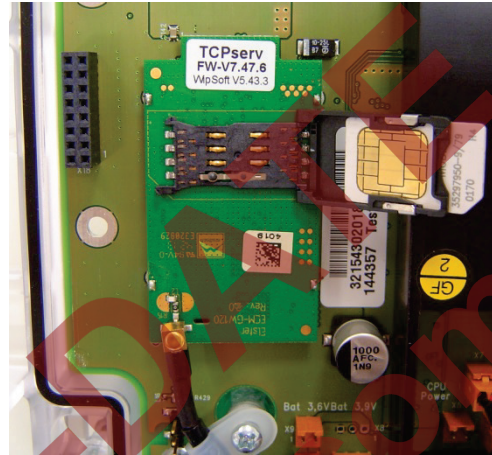

Fig. 8: SIM card inserted
- Insert the SIM card into the card slot (in the lid) so that the gold contacts face downwards in the closed end and the bevelled side is at the open end of the lid (⇒ Fig. 8).